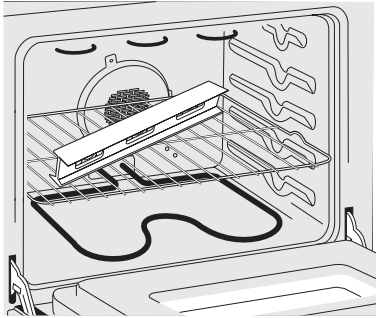
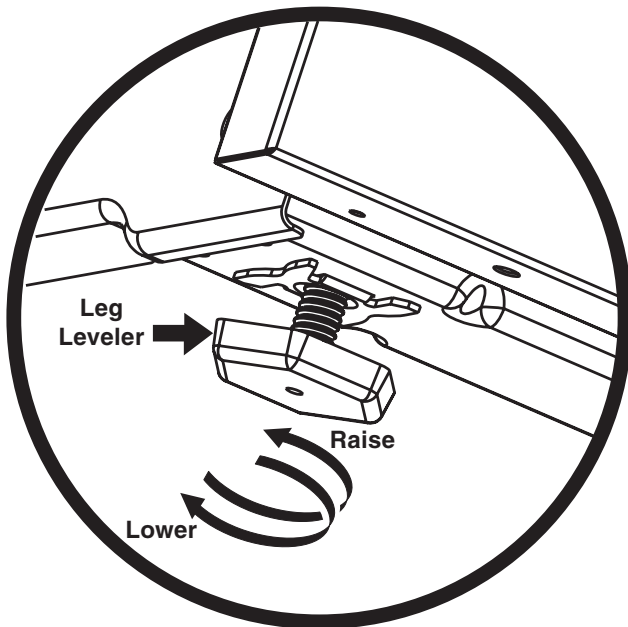

Figure 7
Figure 8
- B. Place a level on the rack (see Figure 7). Take 2 readings with the level placed diagonally in one direction and then the other. Level the range, if necessary, by adjusting the 4 leg levelers with a wrench (see Figure 8).